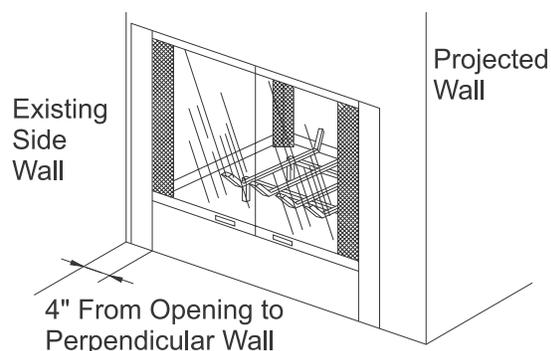

Figure 2 - Typical Two-Sided Fireplace Installation
3. A location that avoids the cutting of joists or roof rafters will make installation easier. Figure 2 shows a typical two-sided fireplace installation.